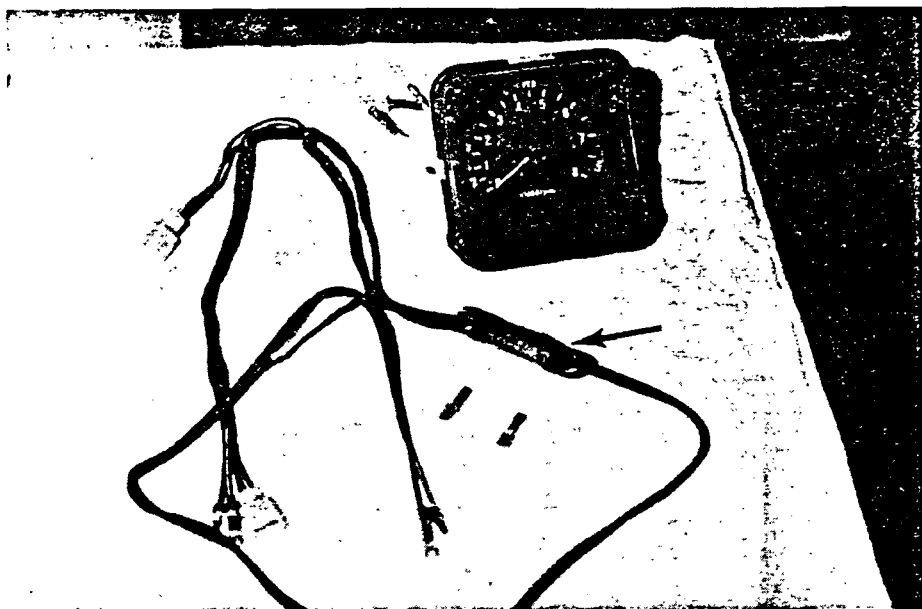

*FIGURE 8 – Hood release cable grommet*
6. Insert the two long wires (black/white and black/green) of tachometer harness assembly through the hood release cable grommet in the firewall. The grommet, located as shown in figures 8 and 9, has a molded-in, sealed passage that can be opened by pushing a screwdriver through it from the vehicle's interior side.